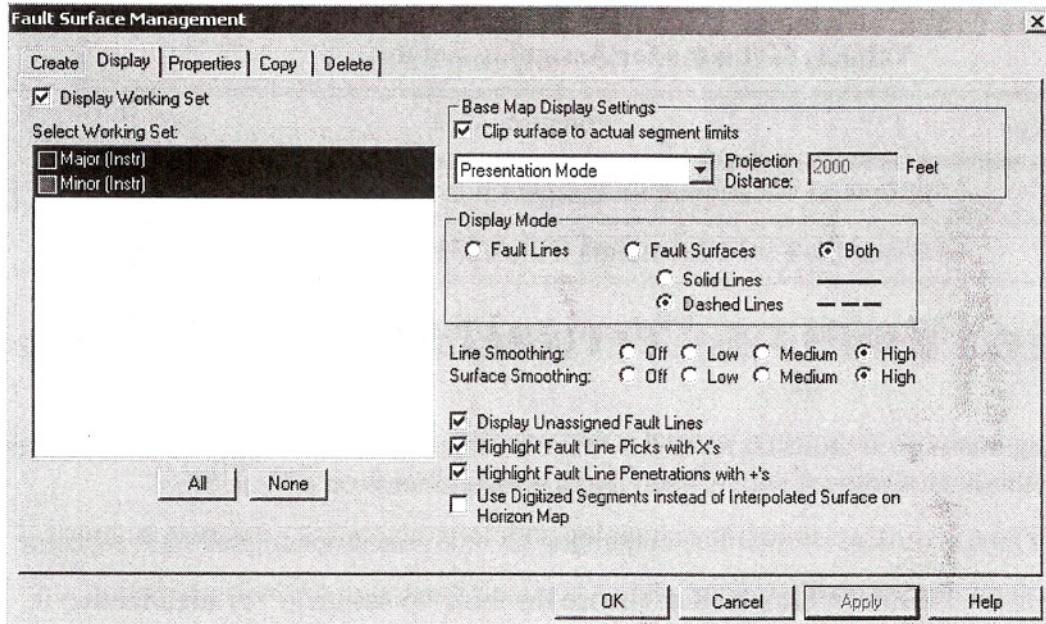

Figure 3.4 — Fault Surface Management dialog box with Properties tab active
1. Select **Faults > Fault Surface Management** and click on the **Properties** tab (Figure 3.4).